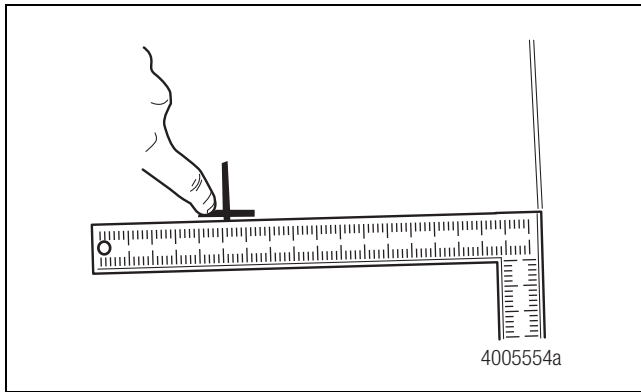

Figure 13.32
- Using a carpenter's square, measure the distance from the transmission universal joint point to the frame rail reference line. Figure 13.32.